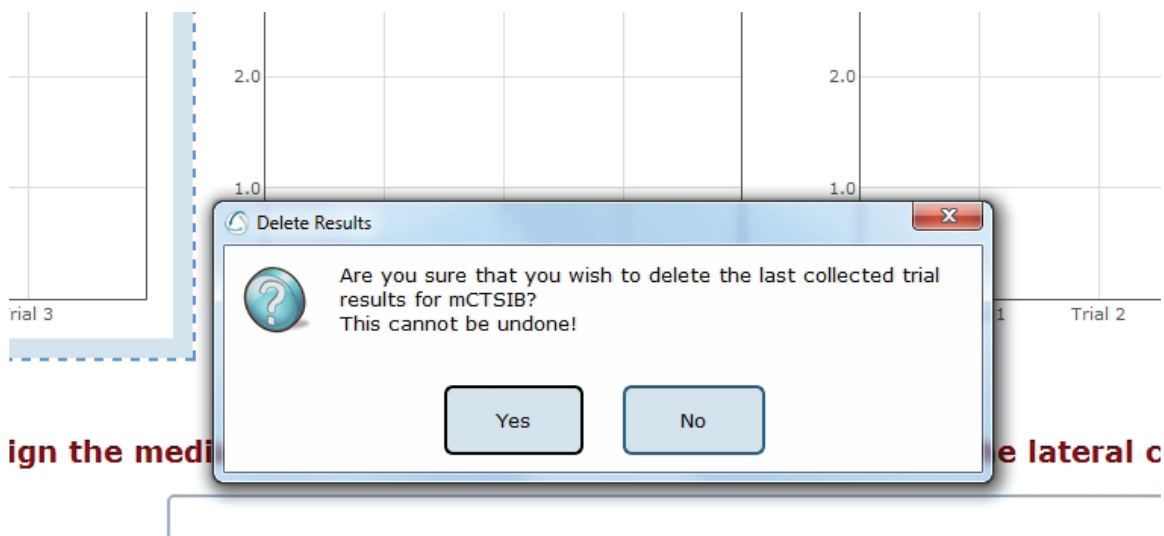

Figure 27: Delete Trial Verification.
2. In the popup window that appears, shown in Figure 27, choose either Yes, I want to delete the last collected trial, or No, I do not want to delete the last collected trial.